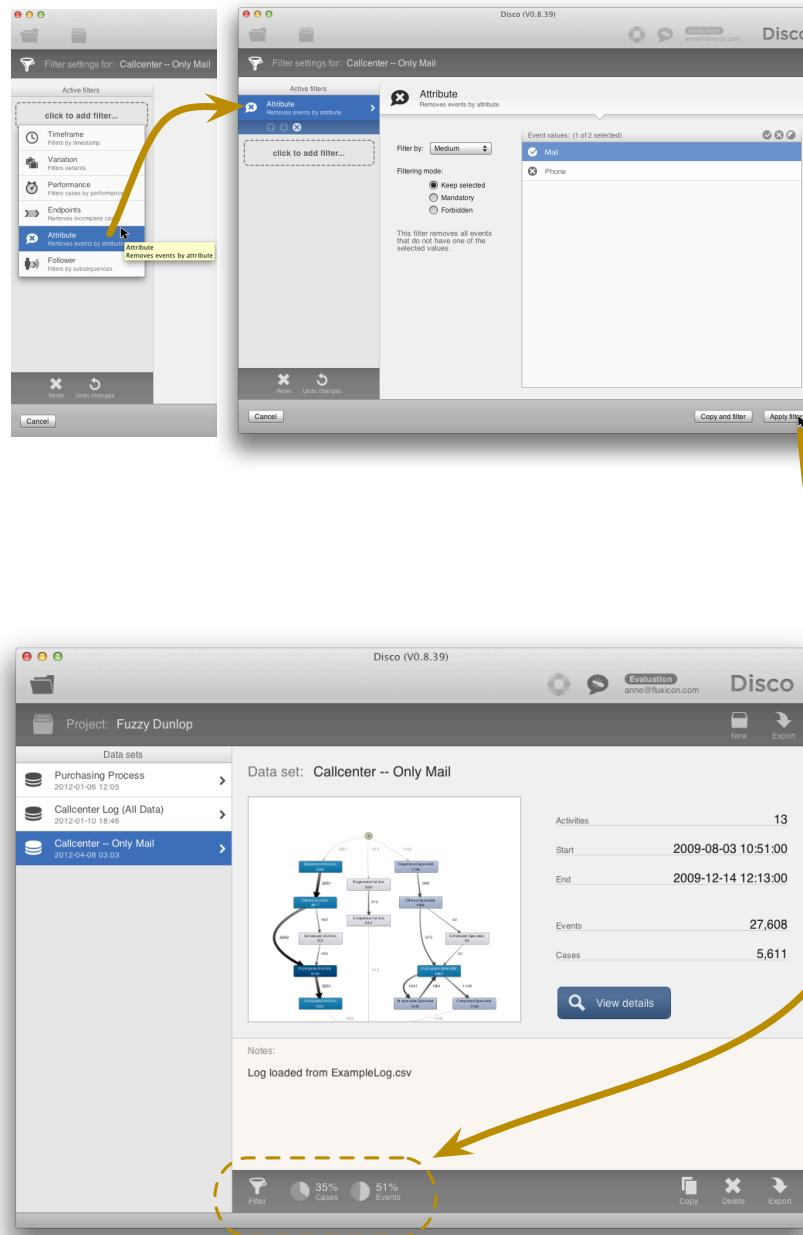

Fig. 6.10. Example Scenario – Step 2: Add a filter to focus on email requests.
Step 2: Figure 6.10 illustrates this step. We add an Attribute filter, select the *Medium* attribute, and choose to only keep events with the value ‘Mail’. Refer to Chapter 5 for details on the individual log filters that are available in Disco. After the filter is applied, the new copy actually contains only email requests. In Figure 6.10 you can see that the filtered subset contains 35% of the cases compared to the complete call center log.